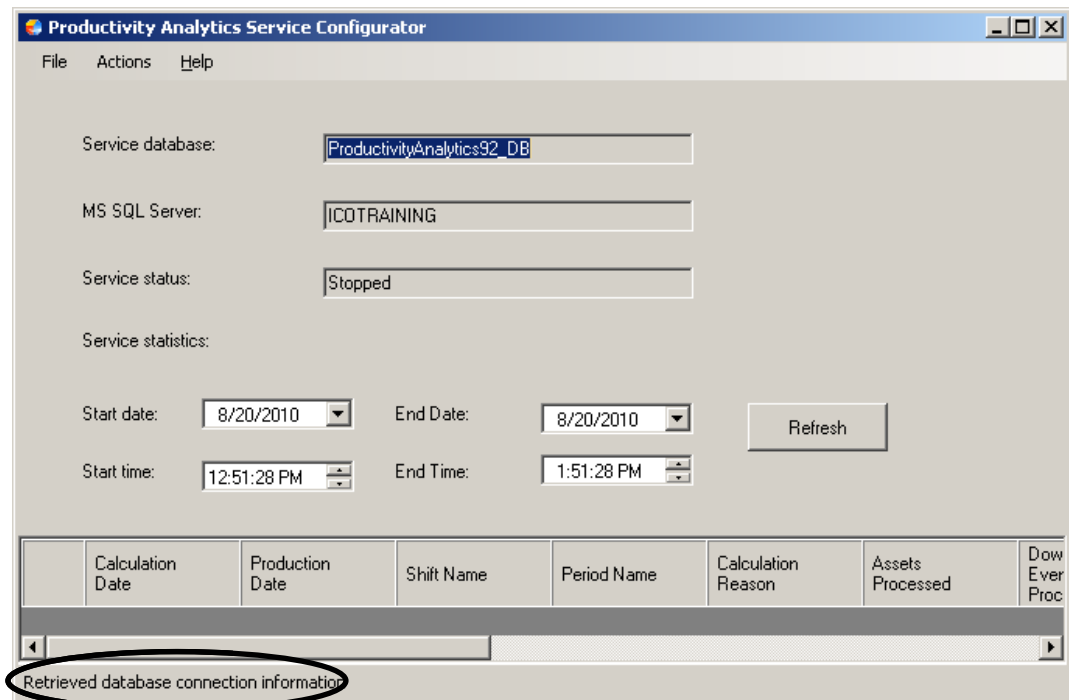

Figure L1.21 - Productivity Analytics Service Configurator
2. Check the lower left corner of the Productivity Analytics Service Configurator and make sure it says “Retrieved database connection information,” as shown in Figure L1.21.